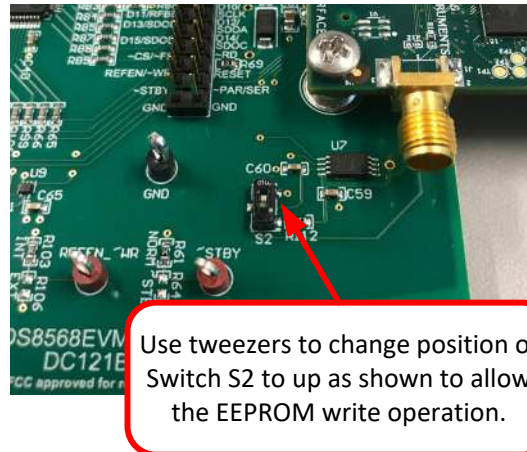

Figure 7-1. Enable EEPROM for Writing
2. Enable the EEPROM for writing. This is done by changing switch S2 to the top position using tweezers. For details, see Figure 7-1.